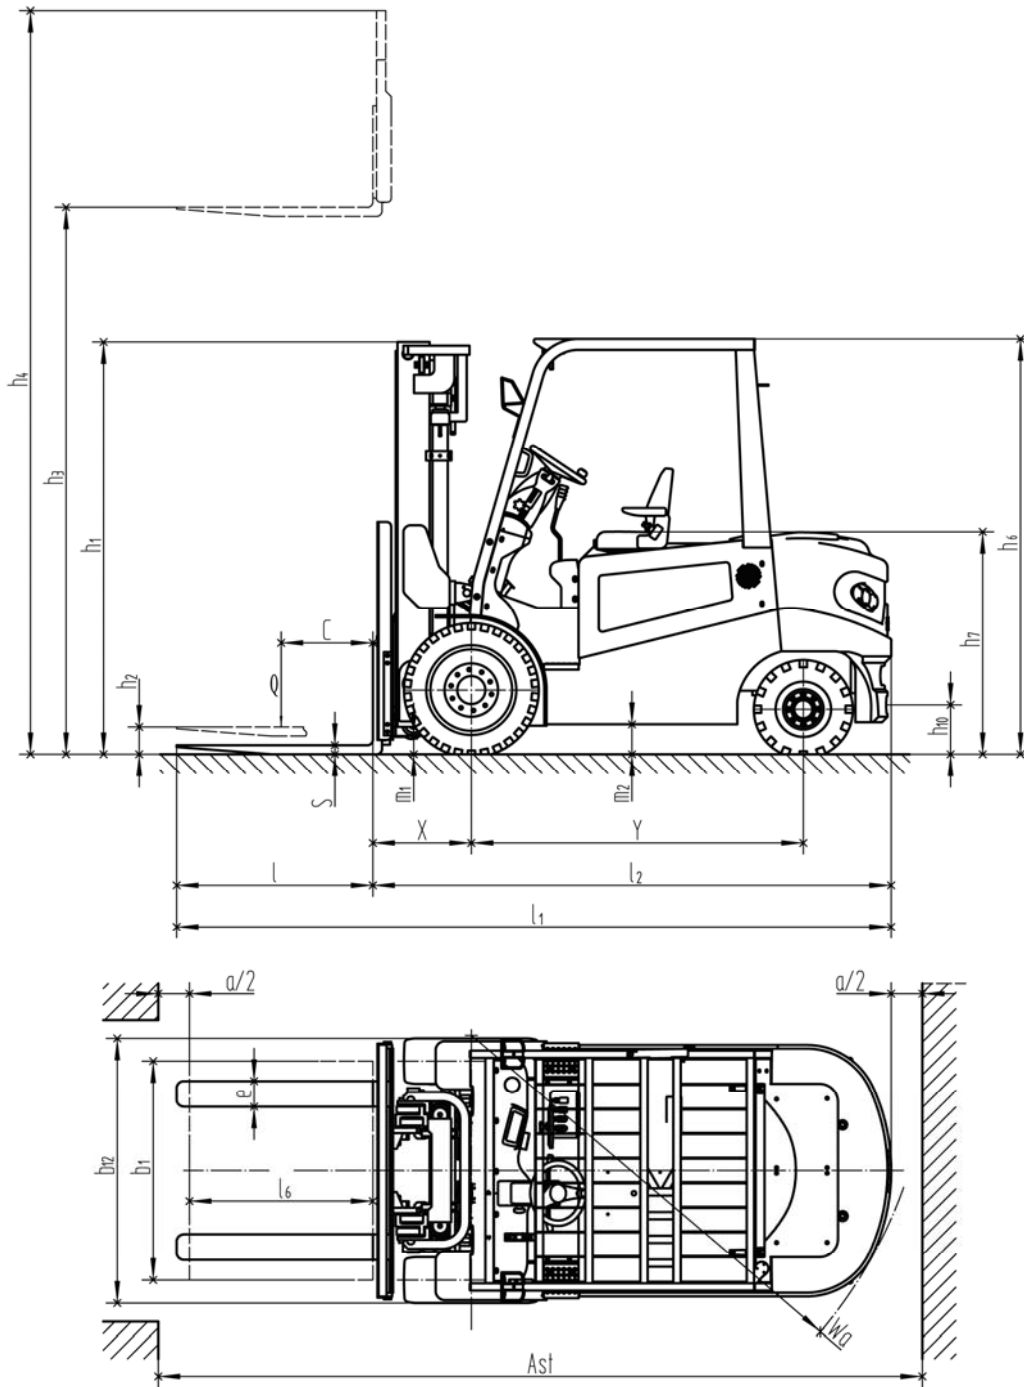

Figure 1-1 Overall dimension
1. Overall dimensions (as shown in Figure 1-1)